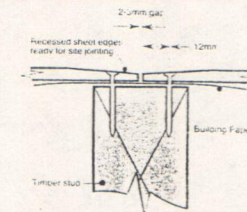

Fig. 2 Recessed edge sheet joint detail
- The recessed edge sheet joint is formed between each sheet of Harditex (Refer Fig. 2) and at internal and external corners.